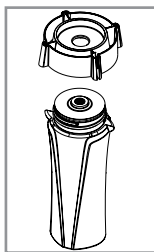

Figure 3
- Place threaded cap onto cup. Turn clockwise to tighten. (See Figure 3)